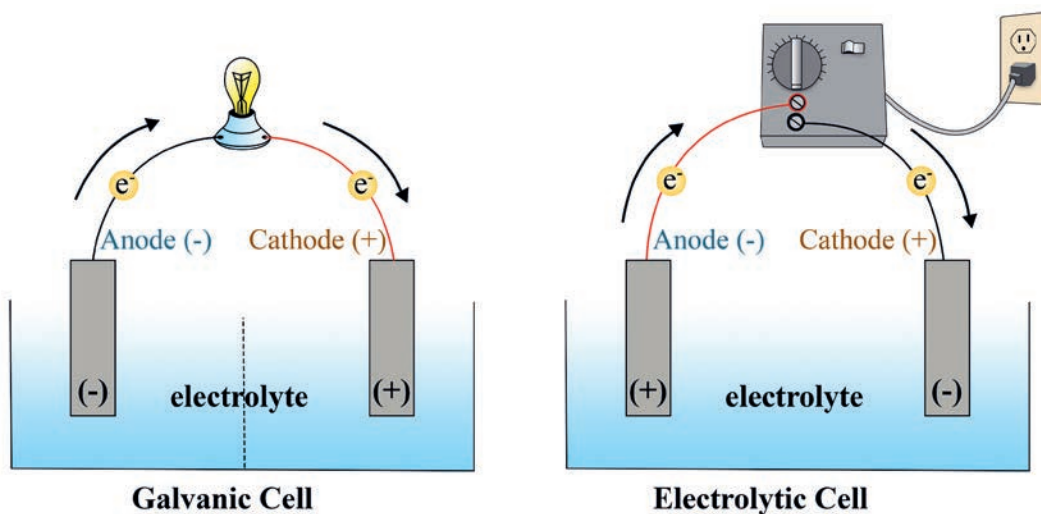

Figure 2. 15: An electrochemical cell:
For the final concentration to be equal, a concentration cell must have the dilute solution in the anode compartment and the concentrated solution in the cathode compartment. For example, let's use 0.10 M Cu^{2+} in the anode half-cell and 1.0M Cu^{2+} in the cathode half-cell (**Figure 2. 14**):
1. Corrosion increases when iron behaves more like the anode. When iron is in contact with a less active metal (weaker reducing agent), such as copper, it loses electrons more readily (its anodic function is enhanced; **Figure 2. 18**). Non conducting rubber or plastic SPACERS are placed between the metals to avoid this problem.
2. Corrosion decreases when iron behaves more like the cathode. In cathodic protection, the most effective way to prevent corrosion, iron makes contact with a more active metal (stronger reducing agent), such as zinc. The iron becomes the cathode and remains intact, while the zinc acts as the anode and loses electrons (**Figure 2. 19**). Coating iron with a “sacrificial” layer of zinc is called **galvanizing**.
Figure 2. 19: The effect of Metal-metal contact on the corrosion of iron; Fe in contact with Zn does not corrode. This method of preventing corrosion is known as cathodic protection